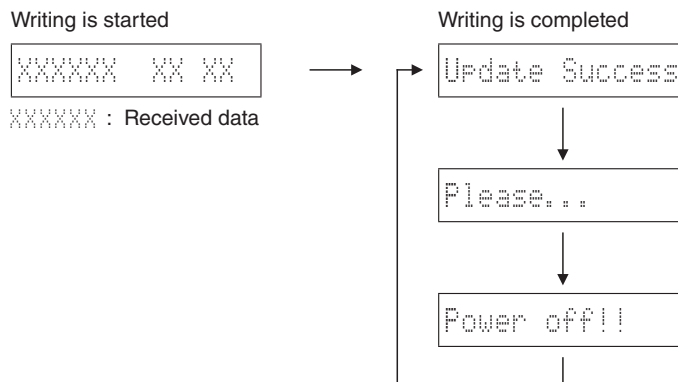

Fig. 3
2. Eject the disc tray of the DVD/CD player, load the firmware CD on it and press the "PLAY" key. Writing of the firmware starts automatically. (Fig. 3)
3. When writing of the firmware is completed, "Update Success", "Please..." and "Power off!!" are displayed repeatedly. (Fig. 3)